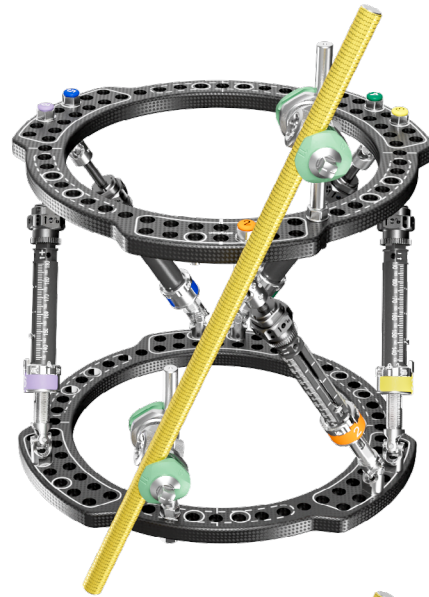

Figure 256
- When the construct is adequately reinforced, remove or relocate the identified strut. **(Figure 256)** One end or both ends of the strut may be relocated.